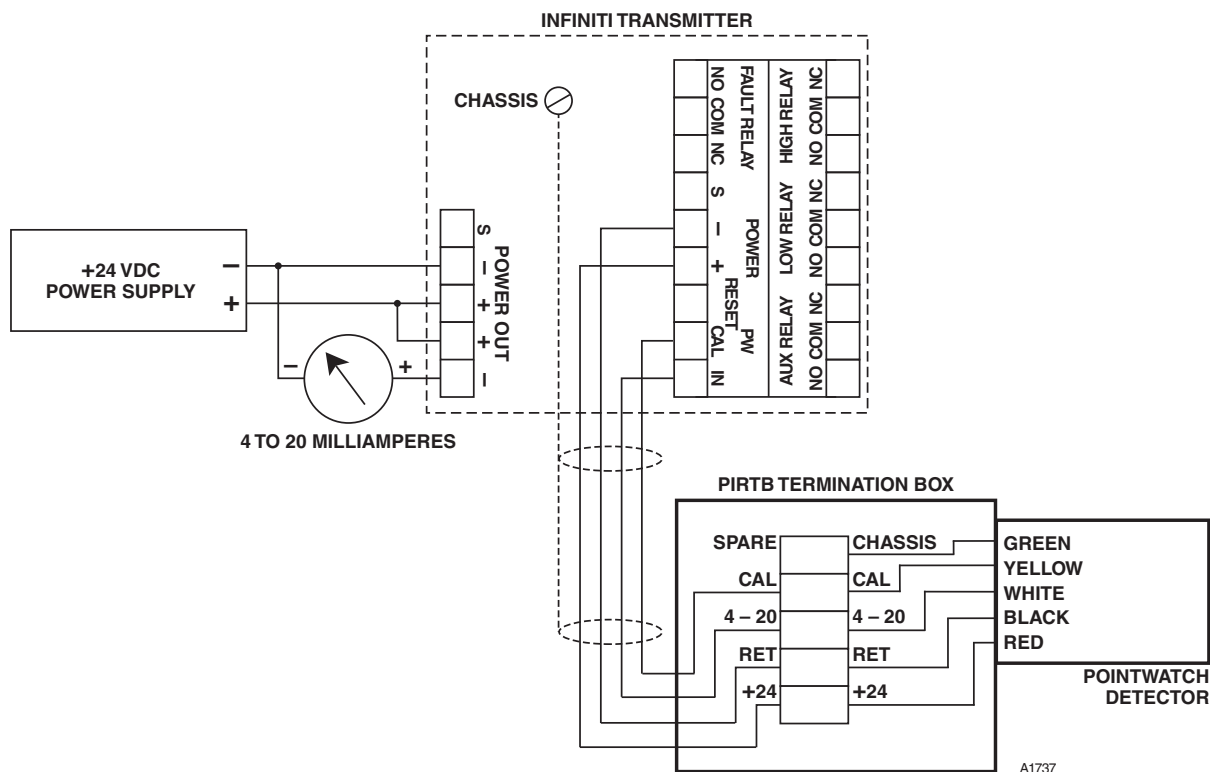

Figure 22—Sensor Separation with Infiniti U9500 Transmitter and PIR9400
2. Connect the detector wires to the terminal strip in the termination box as shown in Figures 22 and 23.
5. If used with the Infiniti U9500 Transmitter, mount and wire the Infiniti U9500 Transmitter as shown in Figure 22 and as described in the Infiniti U9500 Instruction Manual.